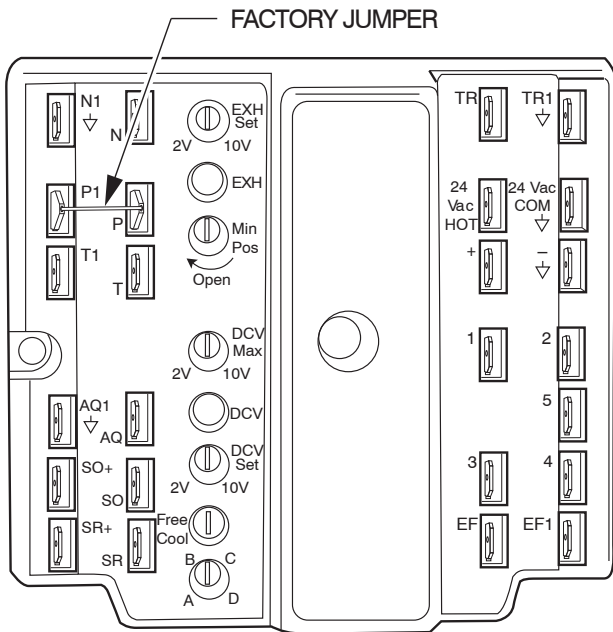

Fig. 92 - EconoMiSer IV Control
3. Ensure that the factory-installed jumper is in place across terminals P and P1. If remote damper positioning is being used, make sure that the terminals are wired according to Fig. 92 and that the minimum position potentiometer is turned fully clockwise.
To control the minimum damper position remotely, remove the factory-installed jumper on the P and P1 terminals on the EconoMi\$er IV controller. Wire the field-supplied potentiometer to the P and P1 terminals on the EconoMi\$er IV controller. See Fig. 92.